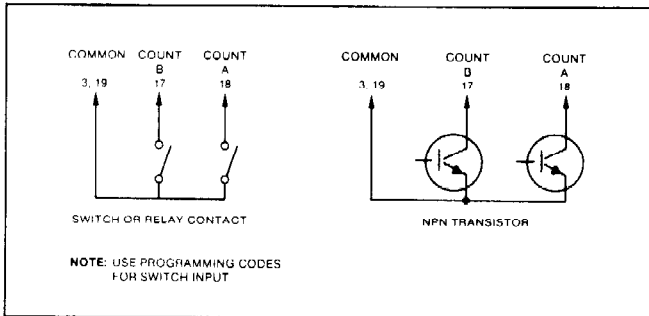
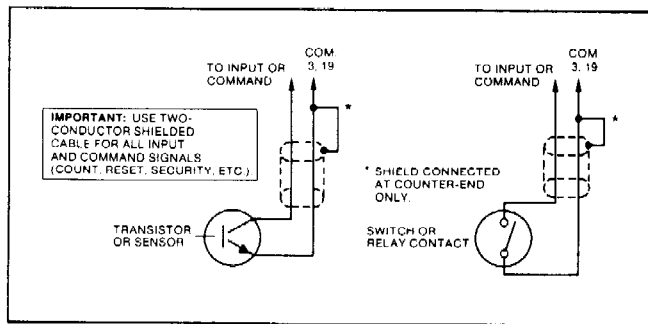

Figure 4-7. Connection of Count Inputs.
Figure 4-8. Use of Shielded Cable.
3. Wire count signal sources to Input-A and/or Input-B as the application requires (refer to Section 5 for input methods). Signal source must be isolated contact or NPN open collector transistor. Refer to Figure 4-7 for connection of count inputs and Figure 4-8 for recommended use of shielded cable. For easy reference of terminal assignments, refer to Figure 4-9.
CAUTION: ALL COUNT SIGNAL OR CONTROL COMMAND INPUTS MUST BE CONNECTED VIA TWO-CONDUCTOR SHIELDED CABLE. REFER TO FIGURE 4-8 FOR RECOMMENDED WIRING METHOD.
All control command inputs must be connected via two-conductor shielded cable (refer to Figure 4-8 for recommended use of shielded cable).
Note: It is recommended that two-conductor shielded cable be used between the counter and switch. Refer to Figure 4-8.